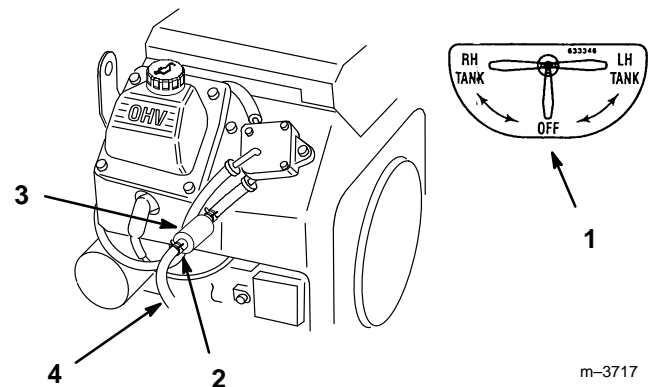

Figure 33
5. Install a new filter and move the hose clamps close to the filter (Fig. 33).
2. Close fuel shut-off valve (Fig. 33).
3. Loosen the hose clamp at the fuel filter and slide it up the fuel line away from the fuel filter (Fig. 33).
4. Pull the fuel line off fuel filter (Fig. 33). Open fuel shut-off valve and allow gasoline to drain into a gas can or drain pan.
5. Install the fuel line onto the fuel filter. Slide the hose clamp close to the fuel filter to secure the fuel line (Fig. 33).